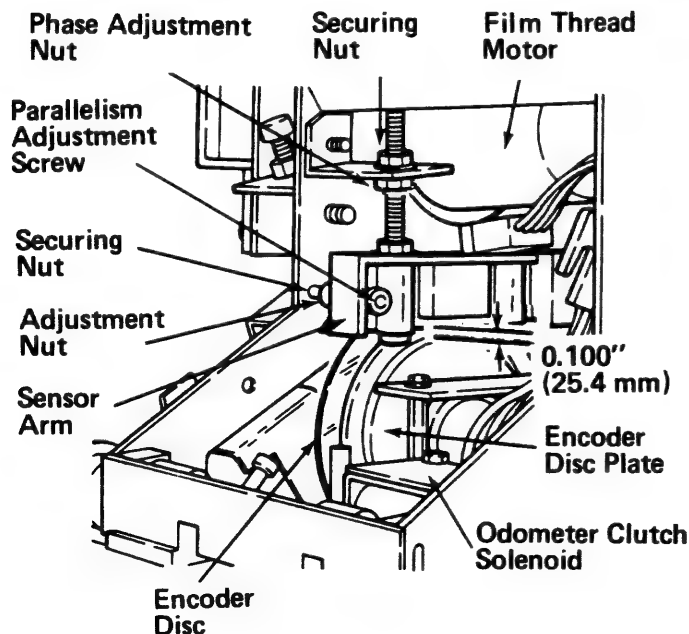
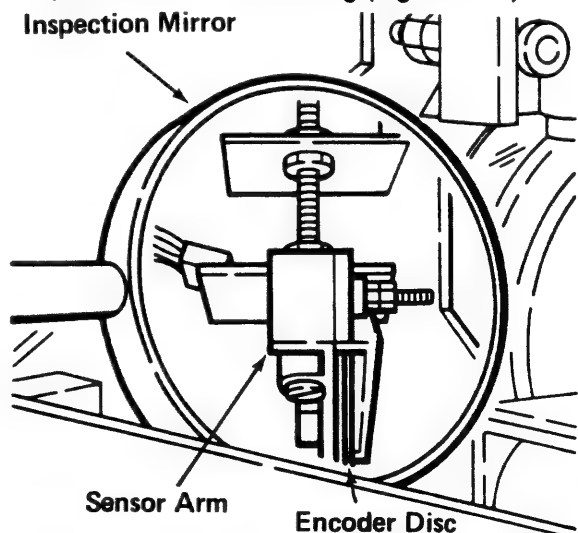
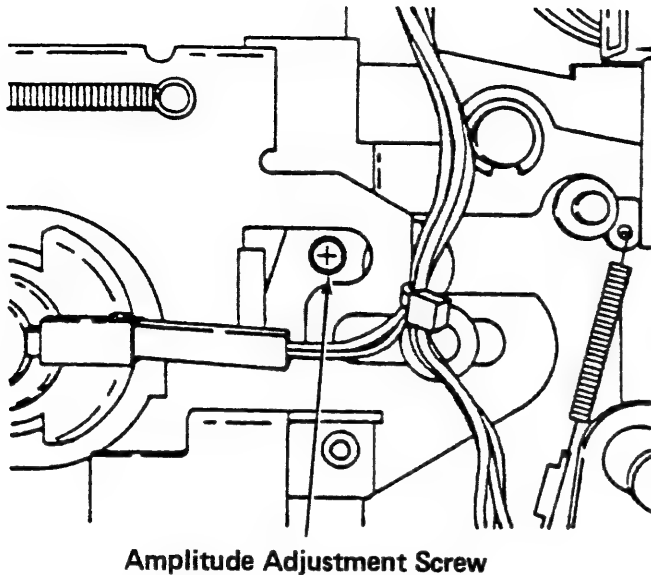
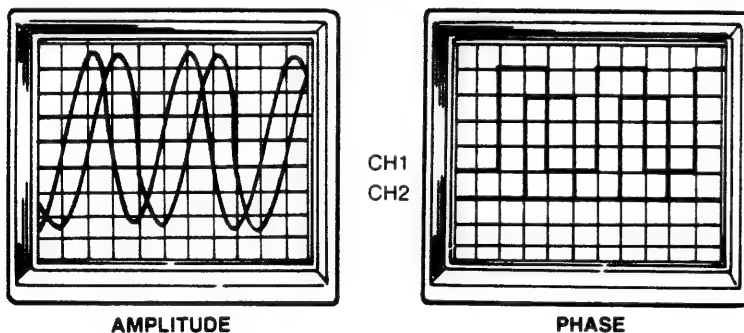

Figure 3-4A
Figure 3-4B
Figure 3-4E
Figure 3-4F
1. Push the Plunger of the Odometer Clutch Solenoid (Y4) to the rear and while turning the Traverse Pulley of the Film Thread Motor (M3), check that the gears mesh smoothly and that the Encoder Disc does not wobble (Figure 3-4A)
1. Loosen the Securing Nut for the Phase Adjustment Screw (Figure 3-4A).
2. Loosen the Securing Nut for the Parallelism Adjustment Screw and, while holding the Adjustment Nut, turn the Parallelism Adjustment Screw (Figure 3-4A) so that the Encoder Disc is parallel with the Odometer Sensor Slot and as close to the rear as possible without touching (Figure 3-4B).
15. While holding the Lock Nut, turn the Amplitude Adjustment Screw, (Figure 3-4E) for a 4 Vpp to 8 Vpp display on the scope (Figure 3-4F).
21. While holding the Securing Nut, turn the Phase Adjustment Nut (Figure 3-4A) for a 90° phase relationship (Figure 3-4F).
24. Turn the Film Speed Control fully clockwise. Observe on the scope that the square waves will NEVER be in phase. See Figure 3-4F.